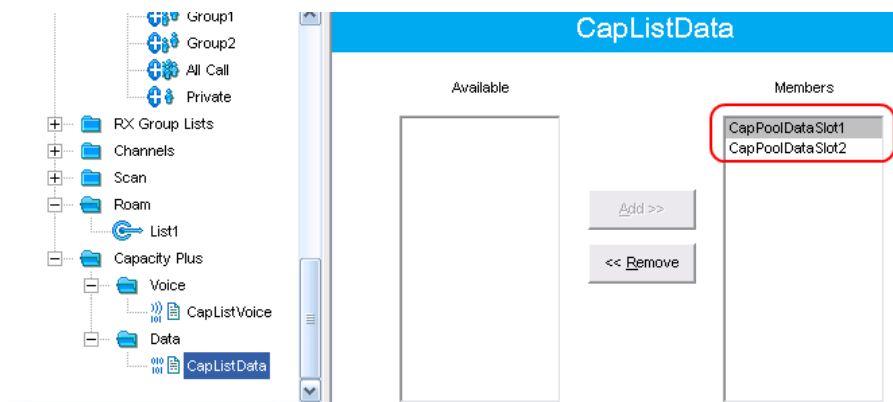

Fig. 25 - Adding data channel pools to data channel list
6. Add created data channel pools to Capacity Plus data channel list (Fig.25).